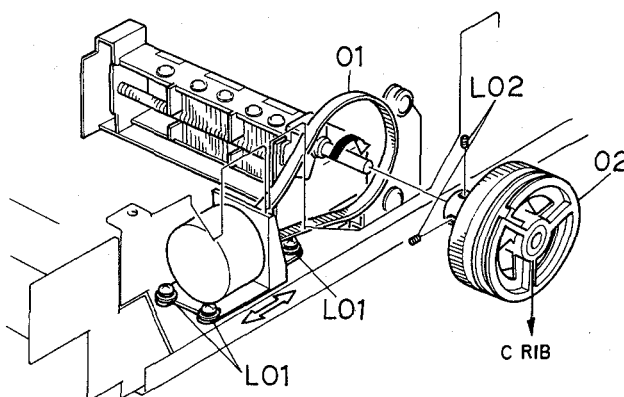

Fig. 5.1.2
Refer to Fig. 5.1.2.
- (5) Refer to Fig. 5.1.2. Keep Rib C to be perpendicular to chassis, then fix the Front-end Reel Ass'y with L02 (screws).
- (6) Adjust the position of the Motor Base Ass'y (Front-end) to obtain the following belt tension, then fix it with L01 (screws) :